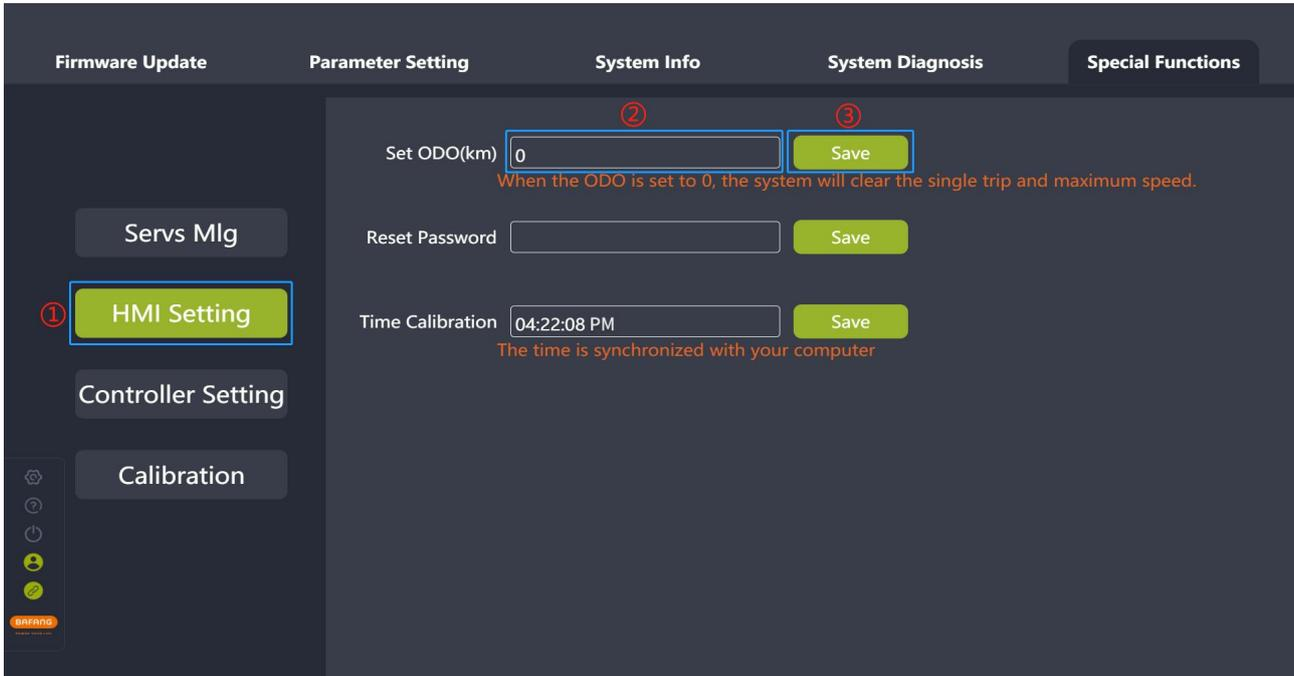

Fig. 8-4 Set ODO
- (1) Connect the BESST Tool to the HMI and select "HMI Setting".
- (2) Enter the ODO value (an integer from 0 to 9999) in the "Set ODO(km)" input box.
- (3) Click "Save" (Fig.8-4).